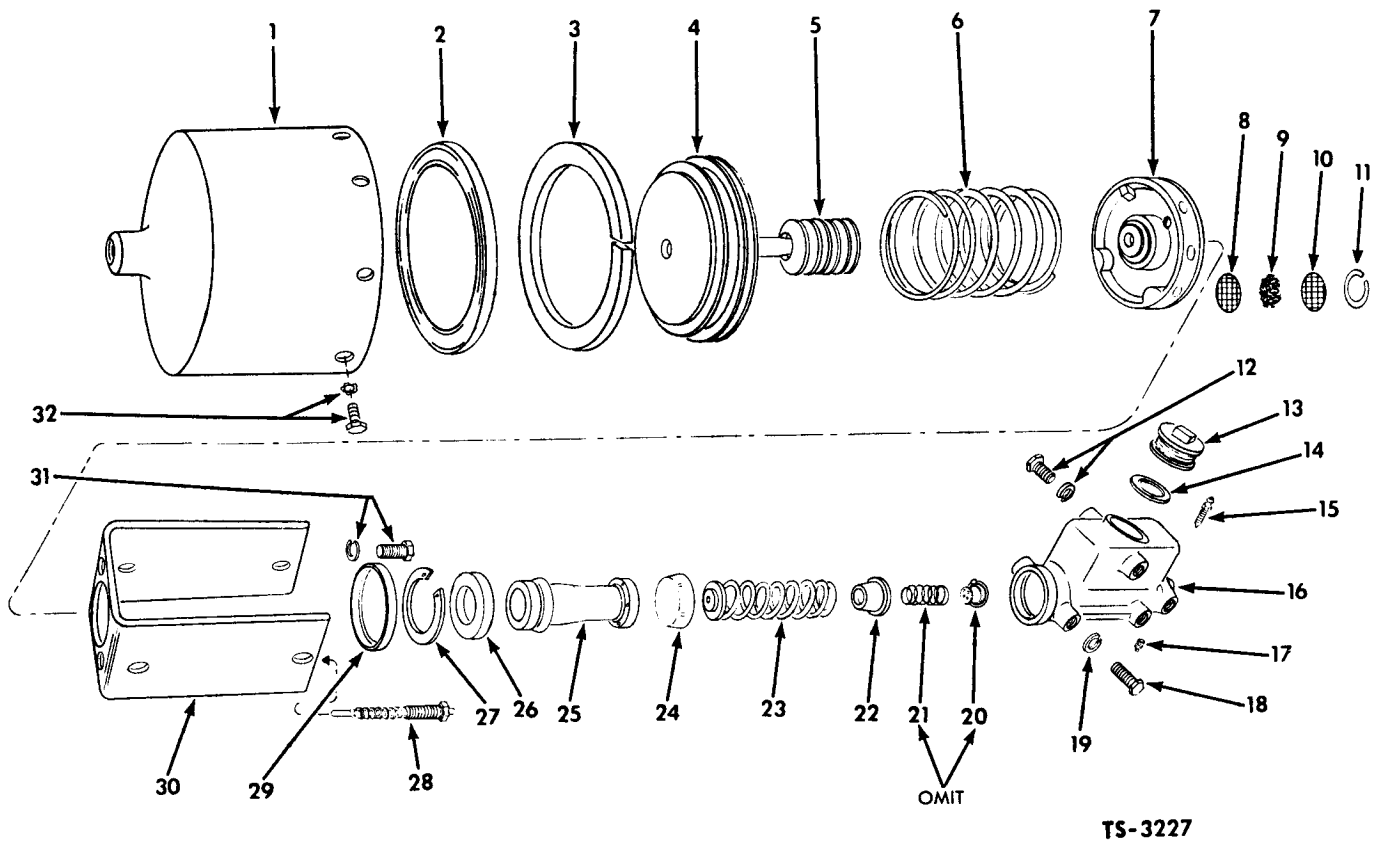

Figure 2
3. Rebuild master cylinder using Items 24, 25 & 27 shown in Figure 2 from 949848 Repair Kit.